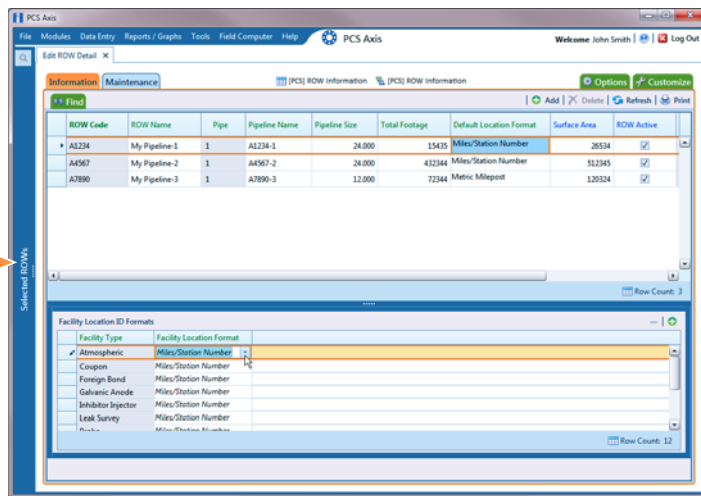

Figure 4-11. Edit ROW Detail
- 3 Click **Data Entry > Edit ROW Detail** to open the *Edit ROW Detail* window (Figure 4-11, page 138).